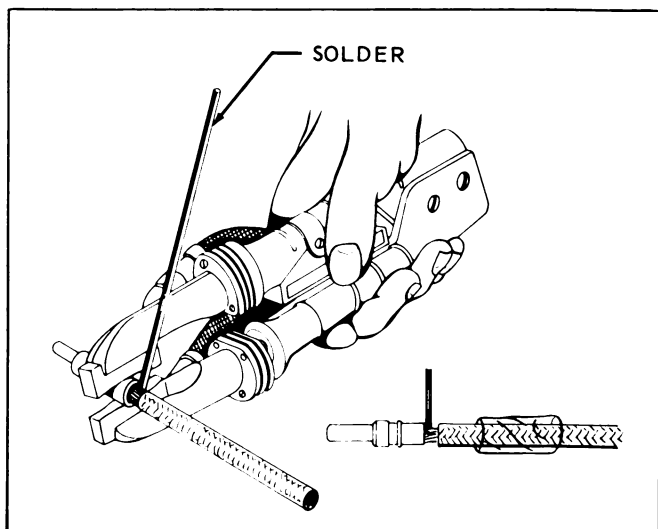

Figure 3-25. Resistance Soldering Pliers for Large Contacts
a. Large contacts are soldered to wires by use of resistance soldering pliers. See Figure 3-25. The contact, removed from insert, is held in the jaws of the pliers and current is applied until the solder in the solder well has melted. Then the pre-tinned wire is inserted slowly into the solder cup while current is